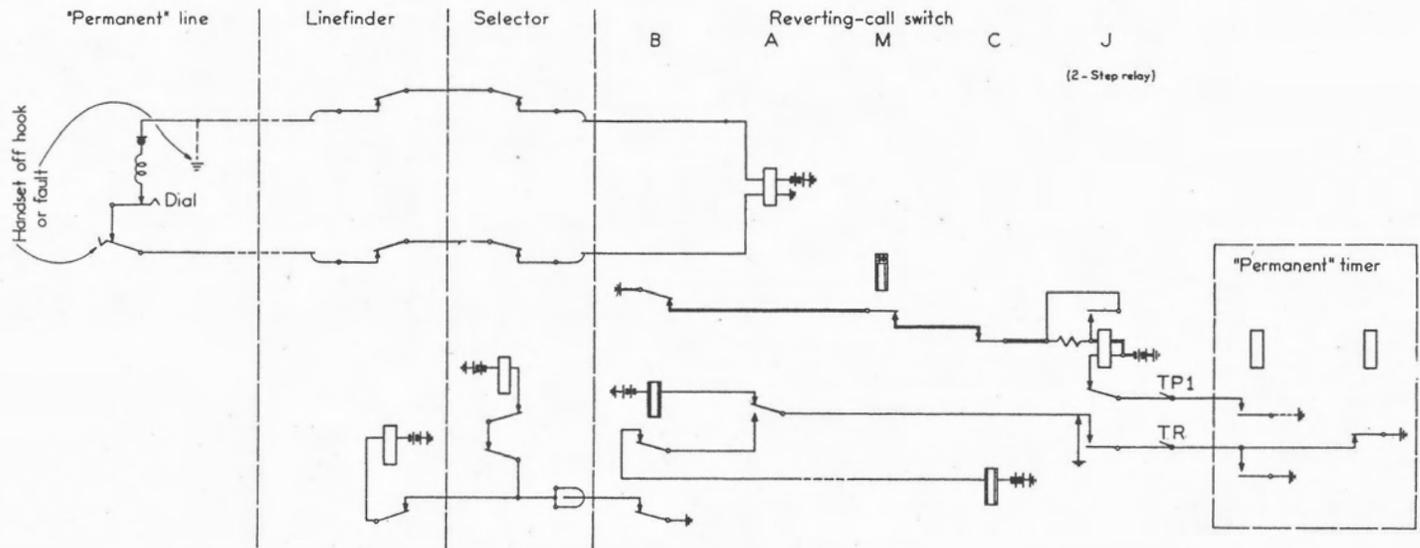

Figure 8. "Permanent timing"
In figure 8, one of the relays controlling this timing is relay C. If the subscriber does not
**5.12 "Permanent" timing (figure 8).** If it were not for permanent timing, a faulty line or a